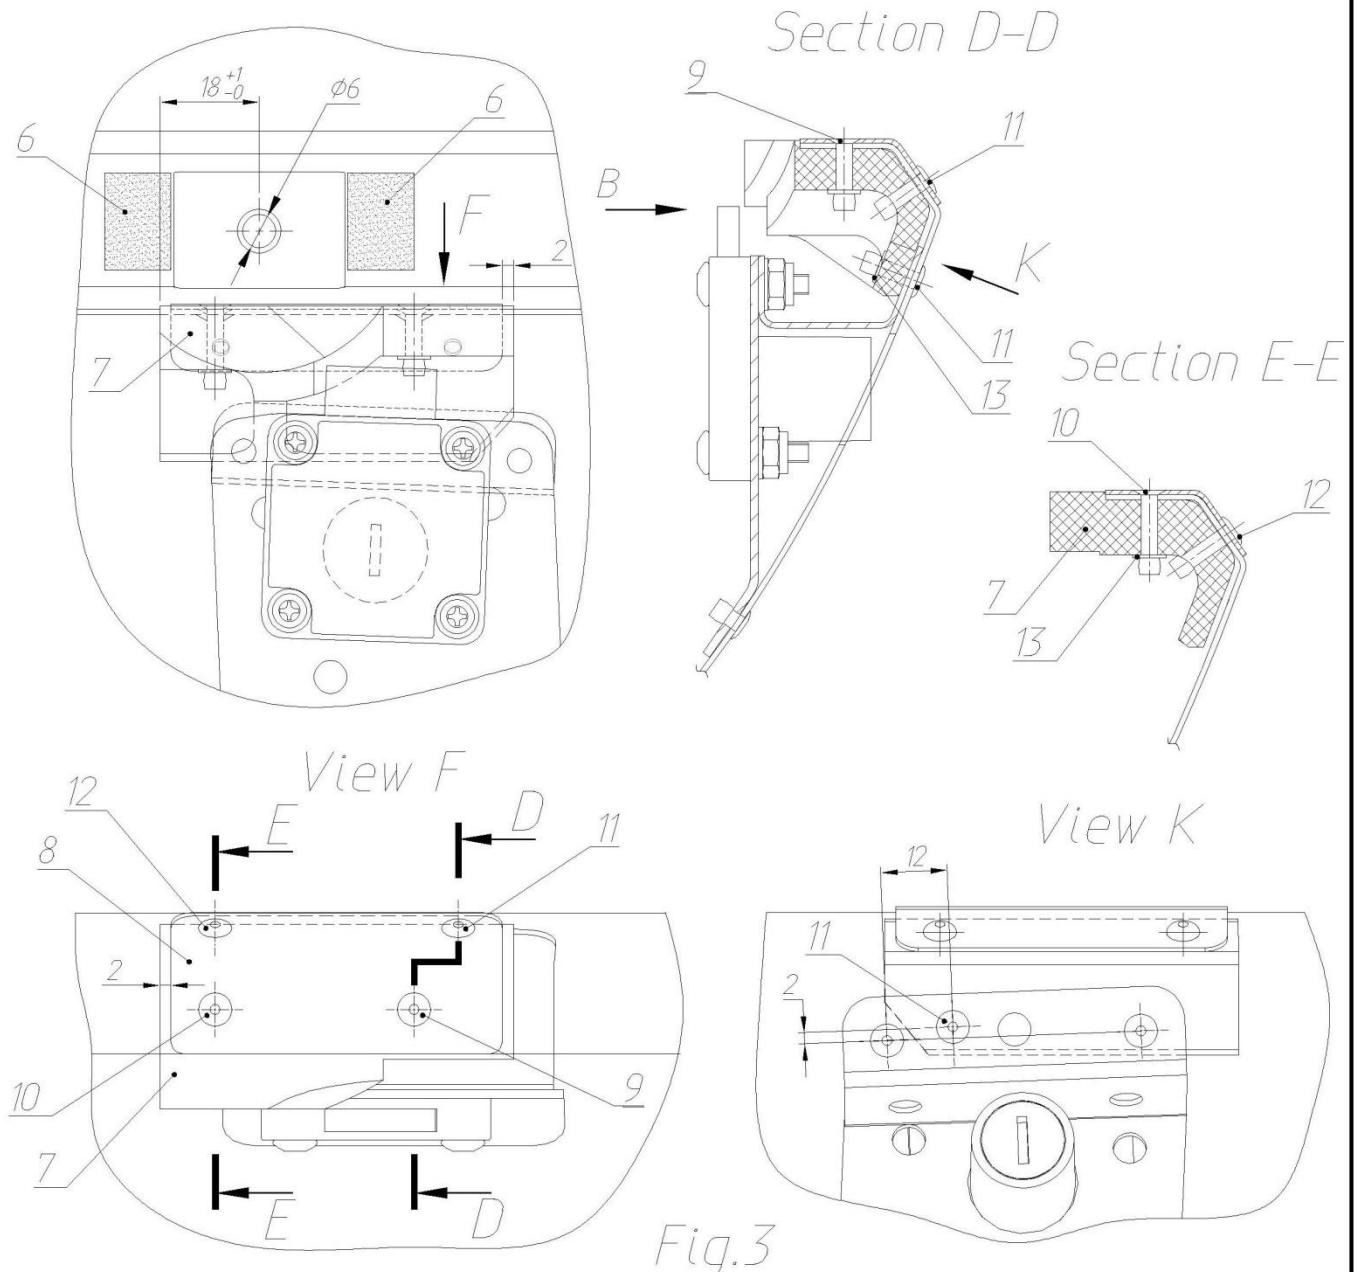

Fig.3
**3.3) Installation of the new latch stop (see fig. 3)**
**3.4) Installation of protective film on the door under the new latch stop (see fig. 3)**